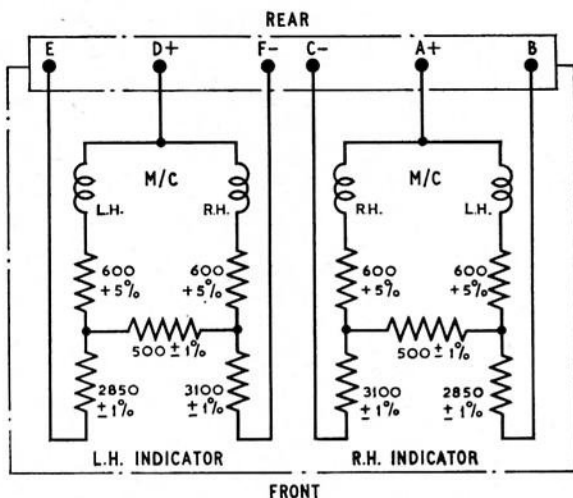

Fig. 2. Circuit diagram
2. The circuit diagram is shown in fig. 2. Connections to the indicators are made via a 6-pole Breeze socket.